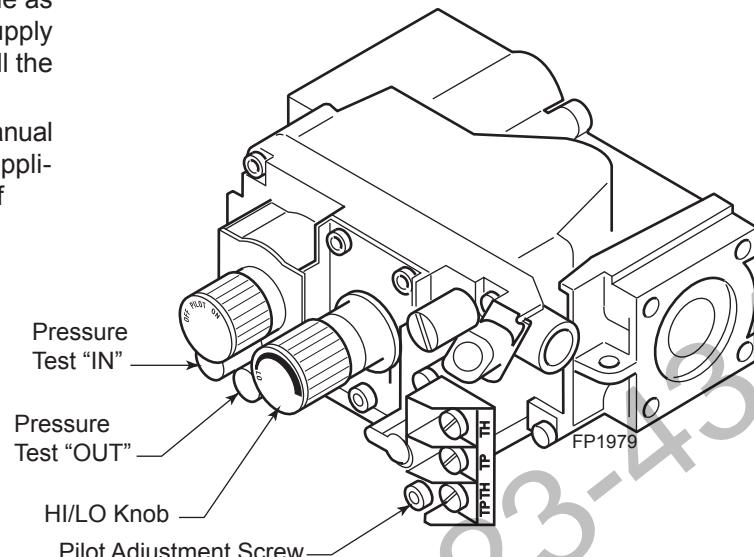

Figure 32 -
5. To check gas pressures at valve, turn captured screw counter clockwise 2 or 3 turns and then place tubing to pressure gauge over test point. Turn unit to high. *Figure 32*. After taking pressure reading, be sure and turn captured screw clockwise firmly to reseal. Do not over torque. Check test points for gas leaks.